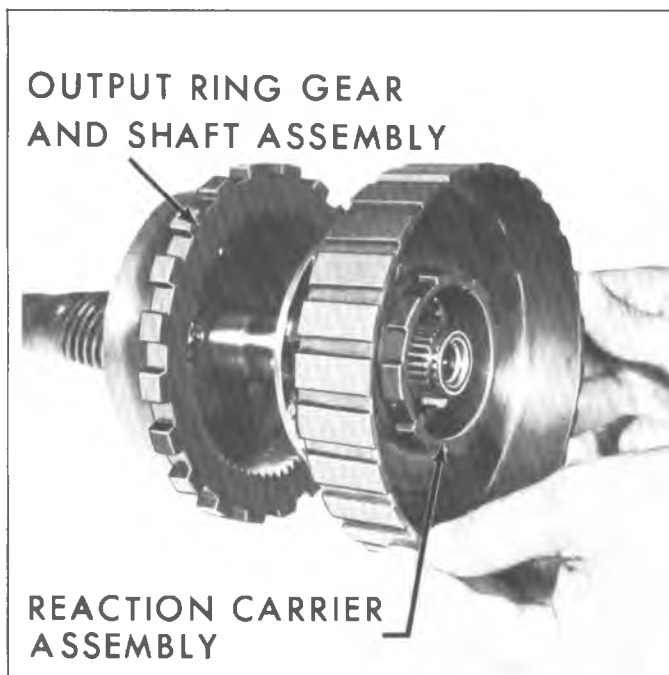

Fig. 41M--Removing Reaction Carrier Assembly
17. Remove reaction carrier assembly from output ring gear and shaft assembly (fig. 41M).